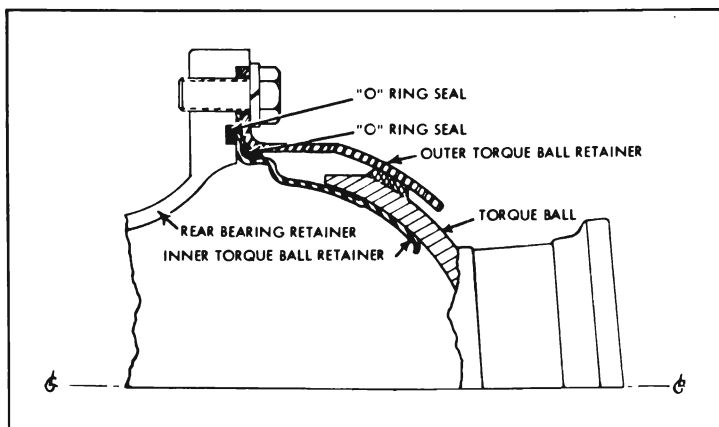

Figure 4-13—Torque Ball Assembly
The universal joint yokes are provided with hardened and ground steel bushings, held by retainer rings, which provide bearings for the hardened and ground pins of the universal joint cross. The rear yoke is splined internally to engage the propeller shaft, and is ground externally to provide a bearing in a bronze bushing in the torque ball. See figure 4-13.
2. Remove retainer bolts, torque ball, retainers, and O-rings from transmission rear bearing retainer. See figure 4-13.